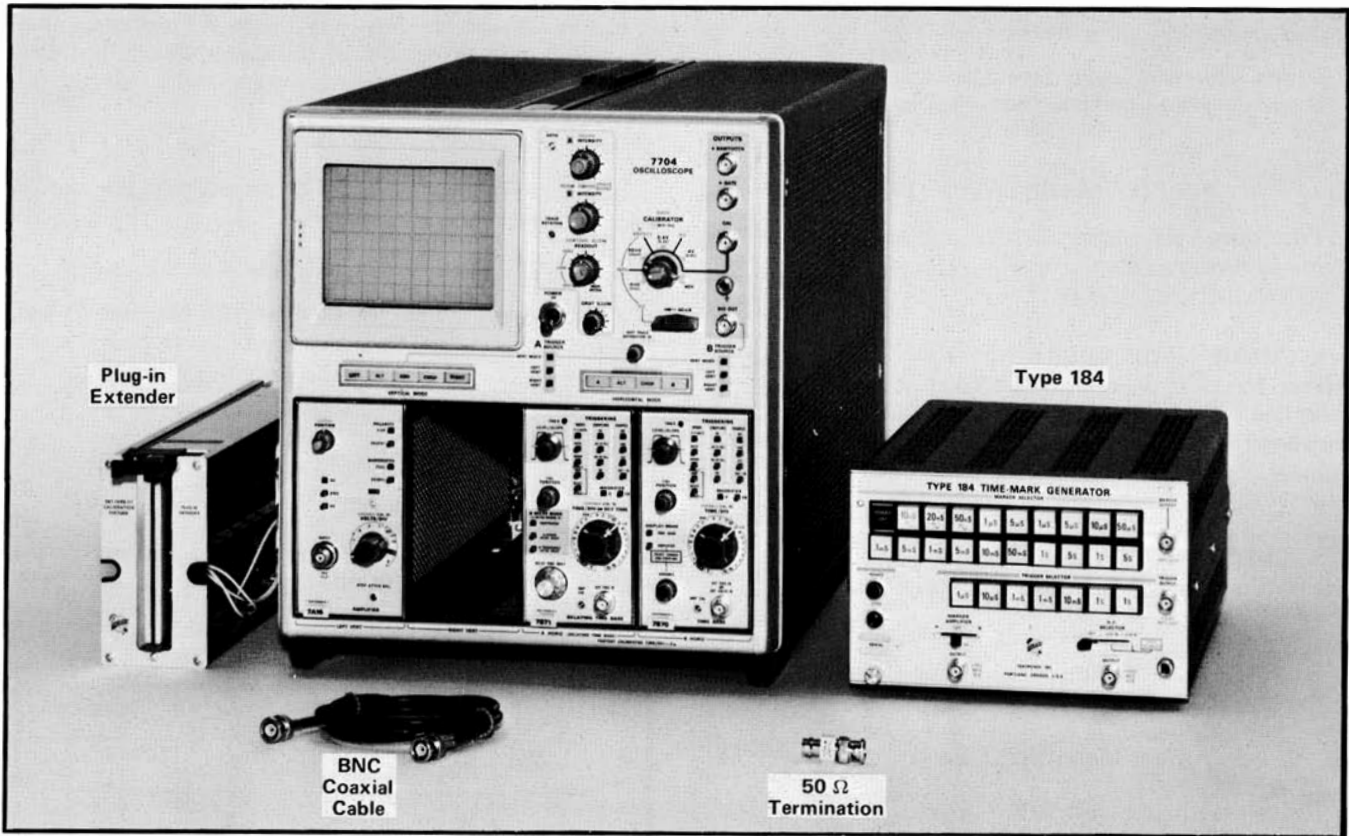
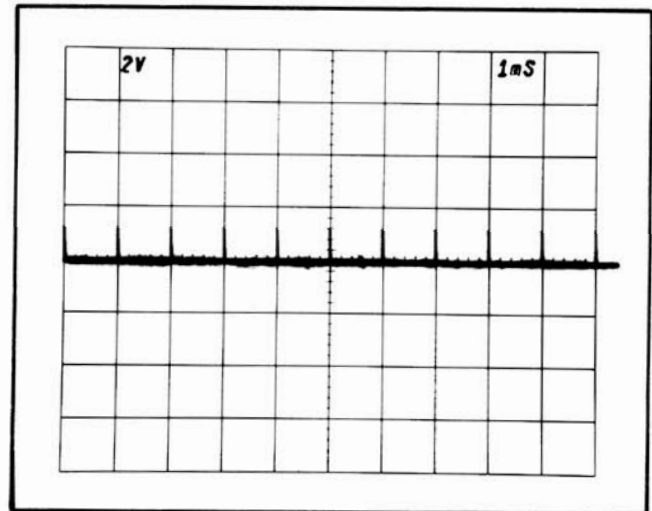

Fig. 5-6. Test equipment required for Steps 17 through 25.
Fig. 5-7. CRT display showing SWP CAL adjustment correctly set.
d. CHECK—CRT display for one 1 ms marker for each division between the second and tenth vertical lines (see Fig. 5-7).
17. Check/Adjust Sweep Calibration (SWP CAL, a front-panel adjustment) ①
- a. Test equipment required is shown in Fig. 5-6.